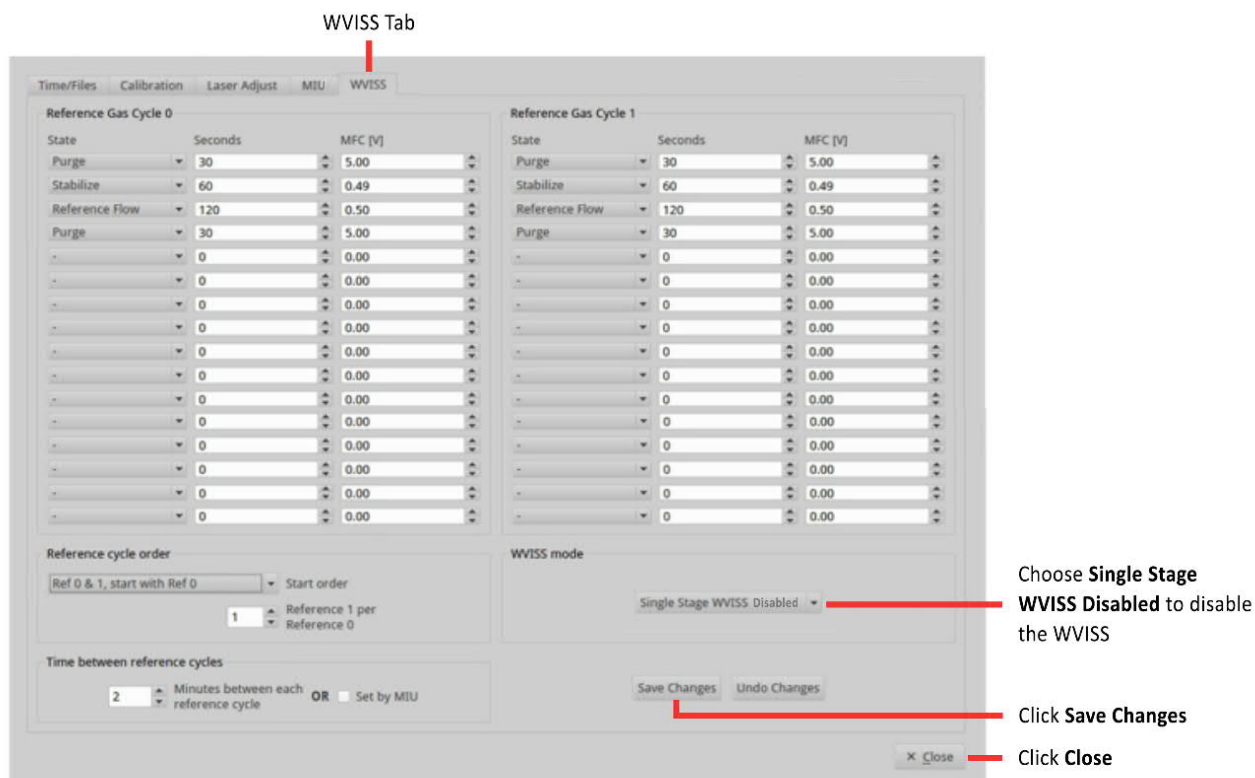

Figure 110: Control Menu for the (Optional) WVISS
- ii. Click on the WVISS tab at the top of the *Setup* screen. (Figure 110)
- iii. Select Single Stage WVISS Disabled in the drop down menu in the WVISS mode section. (Figure 110)
- iv. Click Save Changes. (Figure 110)
- v. Click Close to exit the *Setup* menu. (Figure 110)